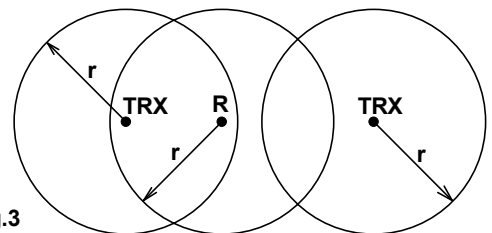

Fig.3
- Weak radio signals may not be reliably detected at large monitored area by a receiver thus requiring one or more repeaters to secure wide area coverage. Fig. 3 shows sample application of repeaters allowing key-fob UMB100H hand transmitters to be used in large area field.